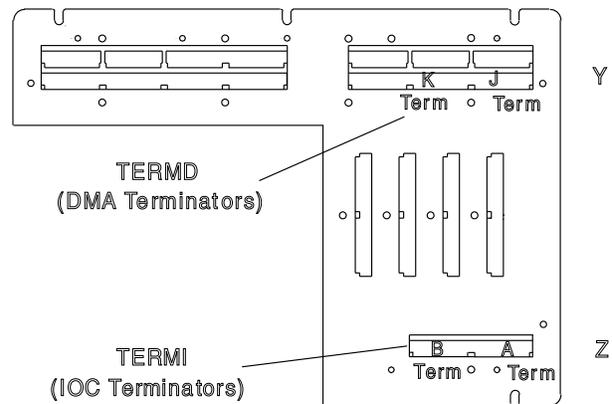

Figure 4-84. Terminator Card Locations
7. Remove the suspected terminator card. Refer to Figure 4-84.